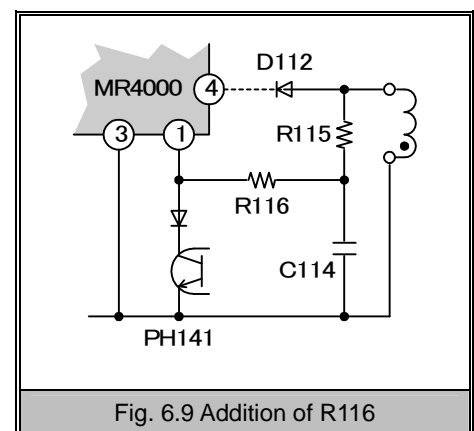

Fig. 6.9 Addition of R116
(3) Z/C pin current limiting resistor R116
If requirements 1) and 2) of Section (2) above cannot be met simultaneously, add R116 as shown in Fig. 6.9. R116 should be around 10 k Ω .